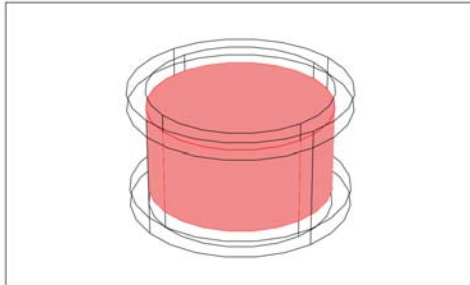

Figure 2-3: A cylinder surrounded by typical cylindrical PML regions.
- *Cylindrical*—PMLs absorbing in cylindrical coordinate directions from a specified axis. It is available in 3D, 2D, and 2D axisymmetry. In axisymmetry, the cylinder axis is the z -axis (Figure 2-3).